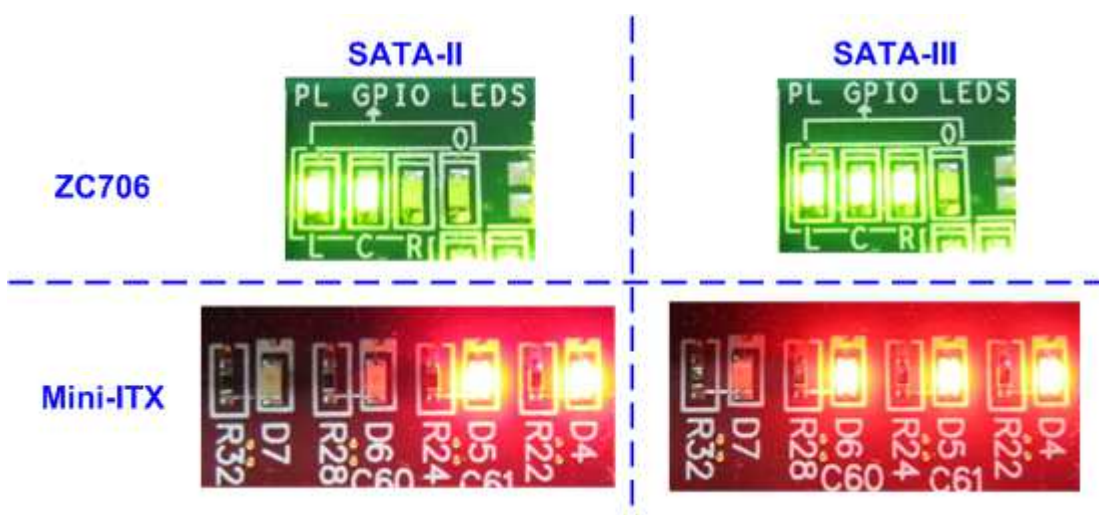

Figure 2-11 LED status after system set up complete on SATA-3/2 speed
11) After programming completely, LEDL/D4 and LEDC/D5 will be ON after complete SATA initialization process. LEDR/D6 shows SATA speed status, as shown in Figure 2-11.